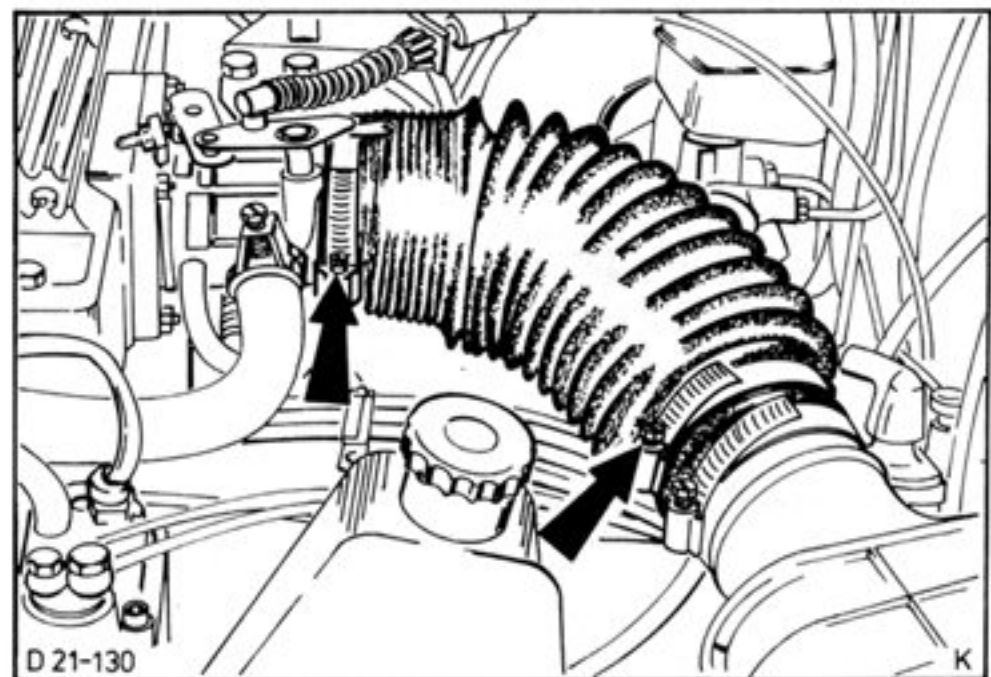

Fig.102. Connecting hose to inlet silencer.
31. Attach fuel line to start valve and fit connecting hose to inlet silencer, ensuring that installation position is as shown in Fig.102.
40. Install connecting hose to inlet silencer (note installation position in Fig.102) and fix expansion tank.